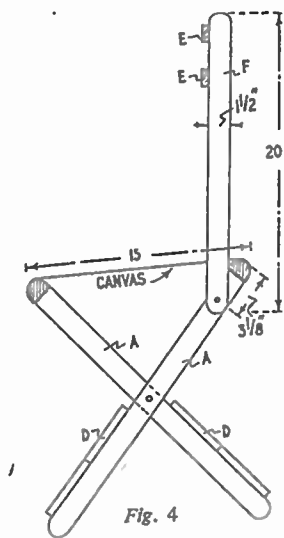

Fig. 4
(E) and two (F). The cross-pieces (E) are $15\frac{1}{2}$ ins. long by $\frac{1}{2}$ in. by $\frac{1}{2}$ in. They should be glued and screwed to pieces (F), spacing them according to the measurements. The lower ends are bored for round-head screws on which they are pivoted to pieces (A). The measurement in Fig. 4 gives the correct slope for the back and this could be adjusted by trial and error if desired. The projections of piece (C) hold the back support in position.